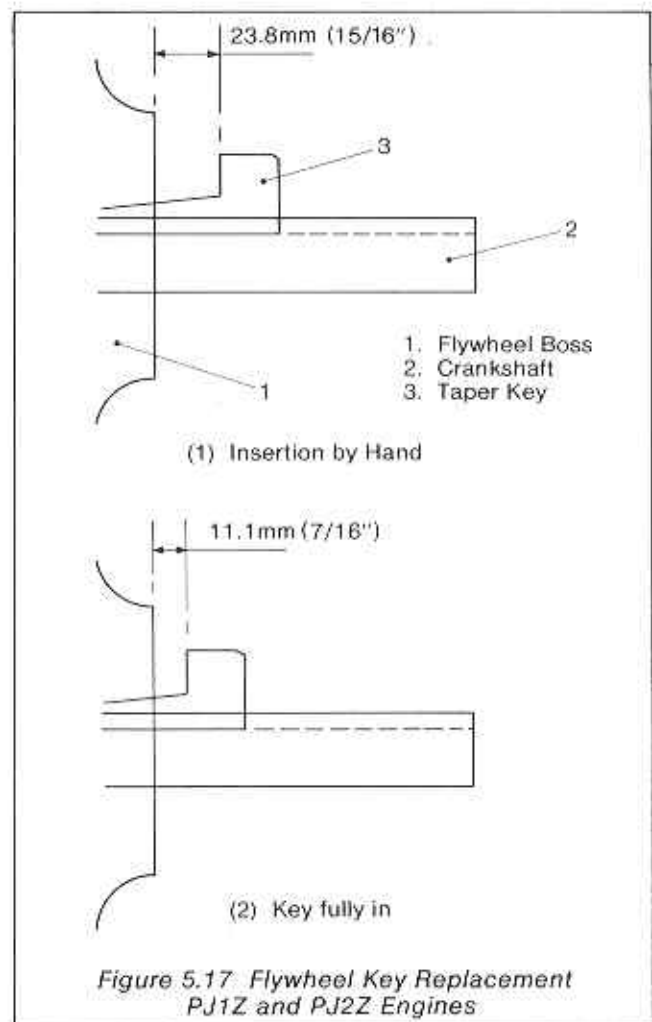

Figure 5.17 Flywheel Key Replacement PJ1Z and PJ2Z Engines
- (2) Push the key by hand as far as possible into the keyway. Measure the distance between the flywheel boss and keyhead, as shown in Figure 5.17, this should be 23.8mm (15/16in.). If it is more, remove metal from